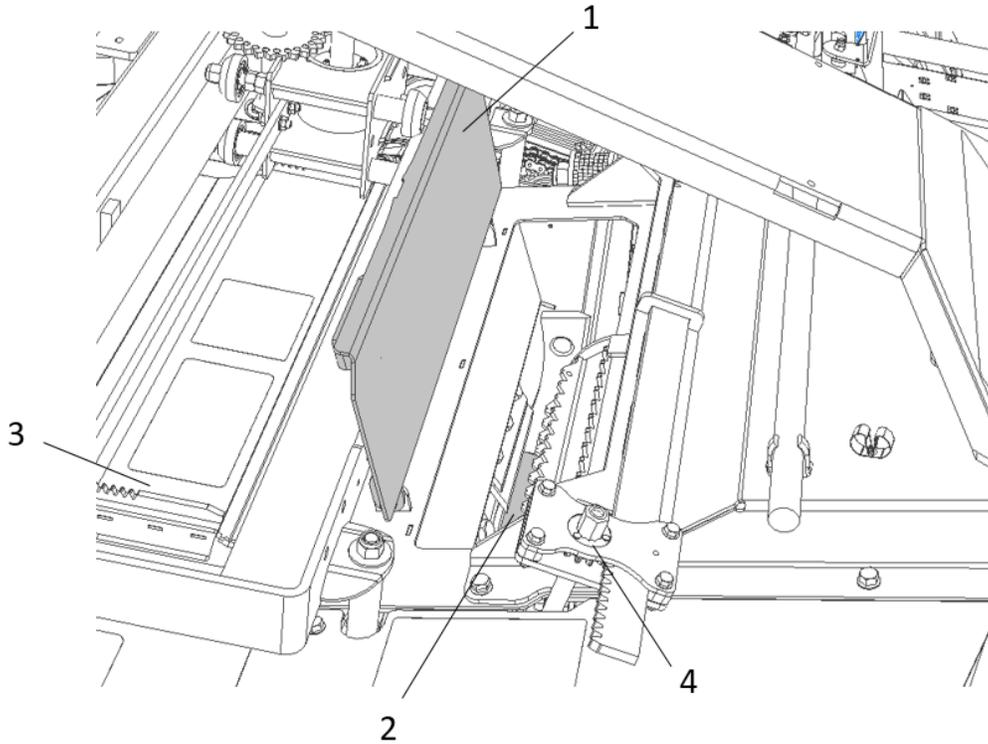

Figure 114 Shear bar replacement
2. Loosen the shear bar clamping rod (item 4 - Figure 114 Shear bar replacement). Loosen the pointer nuts and screws (item 5) completely to clear the path for the shear bar and then unscrew the adjuster bolt (item 6).